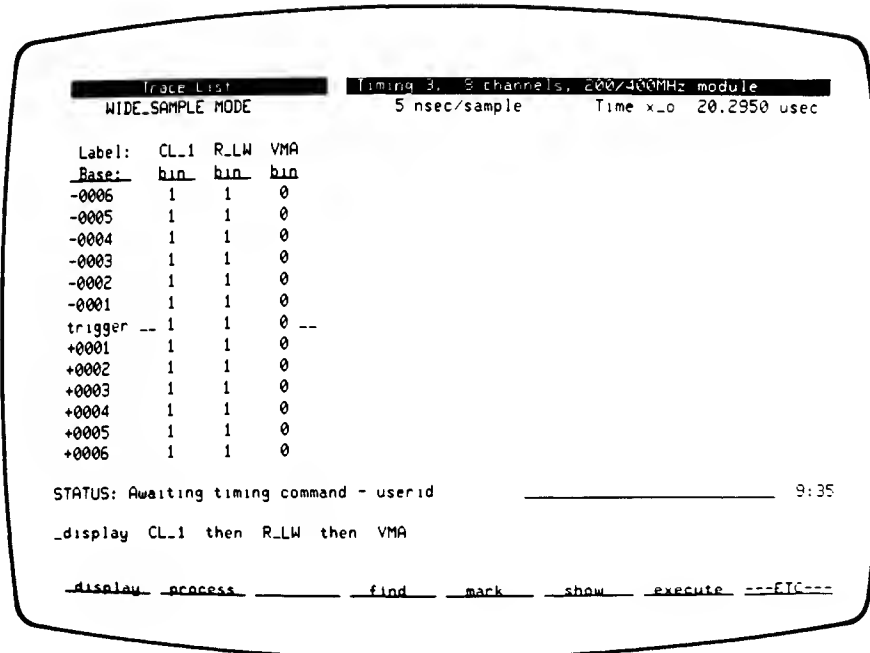

Figure 3-7. Trace List Display Diagram
21. Press the *find* and *trigger* softkeys and RETURN. If the timing analyzer found the trigger and completed its trace, the display on the screen will be like that shown in figure 3-7. If not, the display will show lines -0013 through -0001 on screen because the trigger (line 0000) was never found. A second line of softkey labels (shown below) is available by pressing the ---ETC--- softkey.